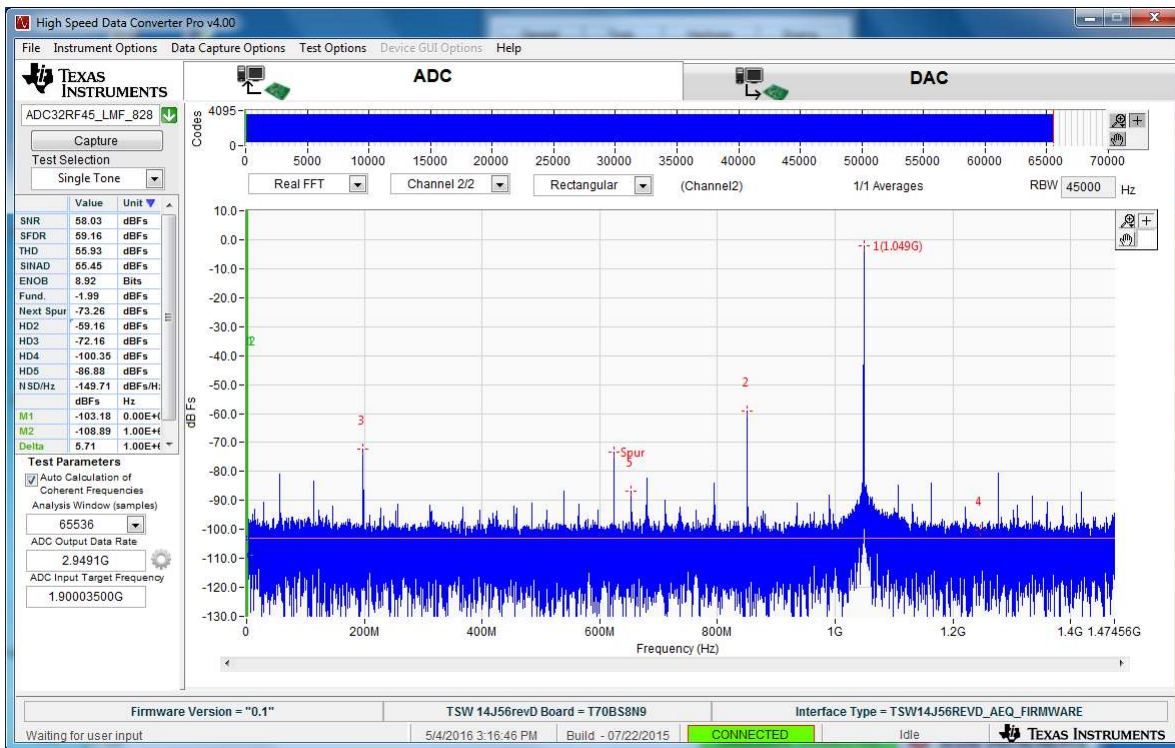

Figure 7. Example Capture from Channel A – Bypass Mode
10. The result should match the example capture in Figure 7.